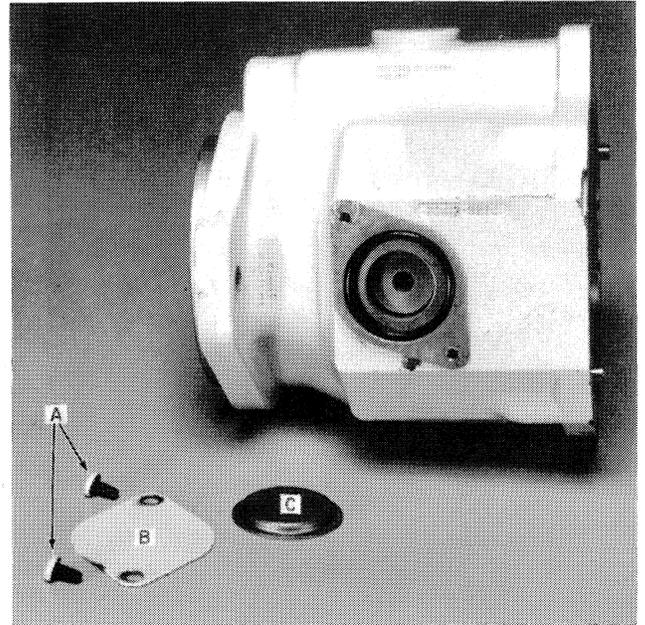
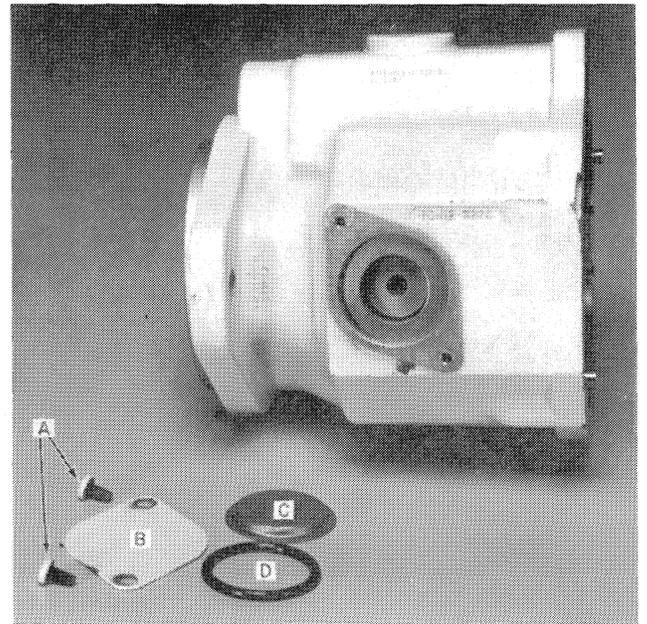
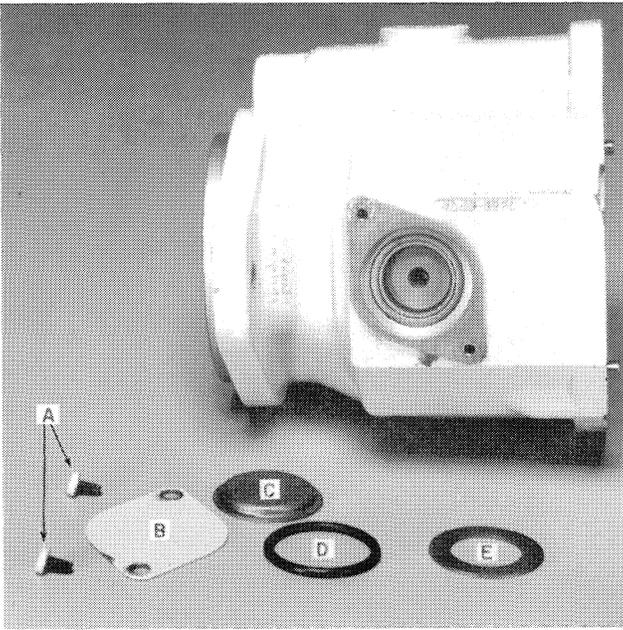

FIGURE 4-16
FIGURE 4-17
FIGURE 4-18
b. Remove O-ring cover, C, Figure 4-16, O-ring, D, Figure 4-17, and washer, E, Figure 4-18.